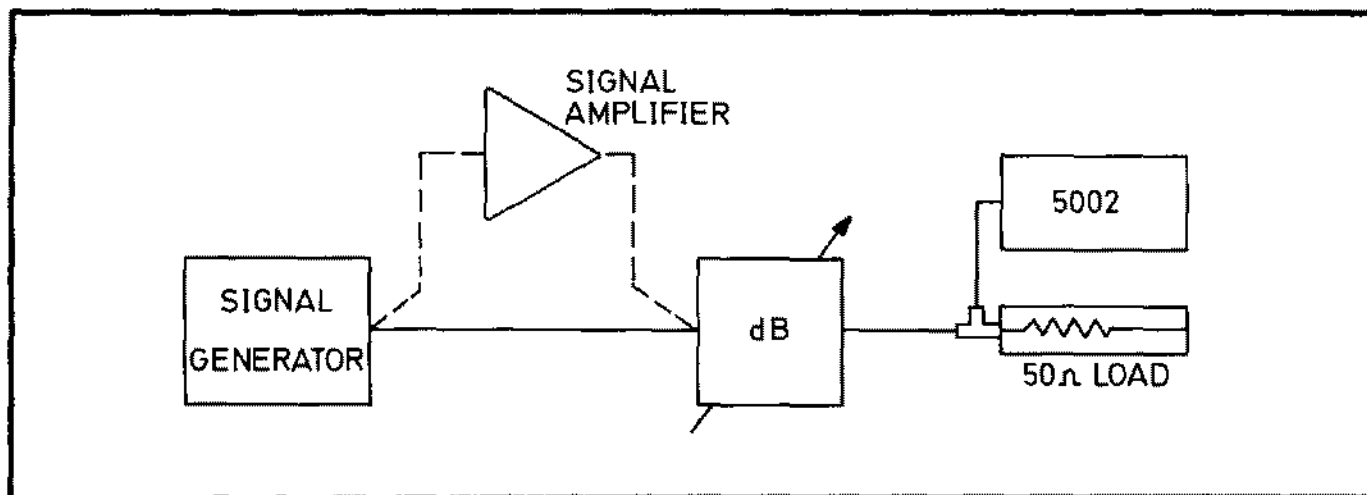

Fig. 6.6 Attenuator Check
- 6.5.13.2 Connect the test equipment as shown in Fig. 6.6. The signal amplifier is not required at this stage.